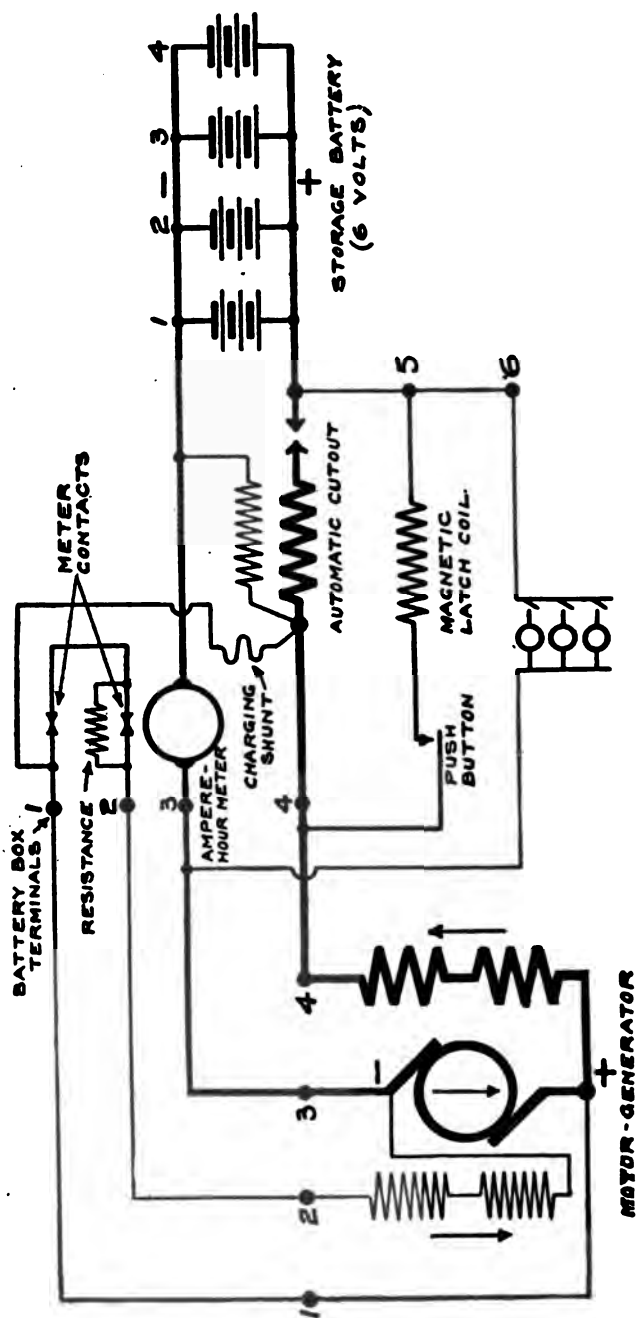

Fig. 244. Wiring Diagram for Generator Circuit of Delco Installation on Cadillac 1912 Model
*Cadillac.* Wiring diagram of the 1912 model is given in Fig. 244. Reference to a model as early as this is made to show the pro-
gressive steps represented by each succeeding year; also because there are a great many of these cars still in use. Twelve cells of battery were employed though the dynamo generated current at 7 to 8 volts (nominally a 6-volt system), and as shown by the diagram which illustrates the connections of the generator circuit, the battery was divided into four groups of three cells each in series-multiple for charging. An ampere-hour meter showed the state of charge of the battery and also indicated how much current was consumed by the various circuits, including the starting motor. Regulation was by means of extra resistance inserted in the field circuit of the generator and an automatic battery cut-out was employed. The diagram shown in Fig. 244 is applicable to the connections of all the Delco 6—24-volt systems in use, when the machine